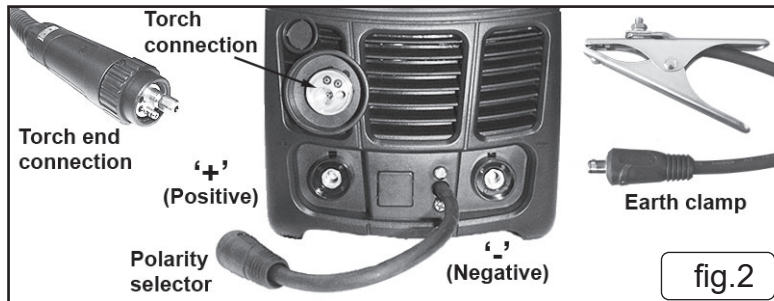
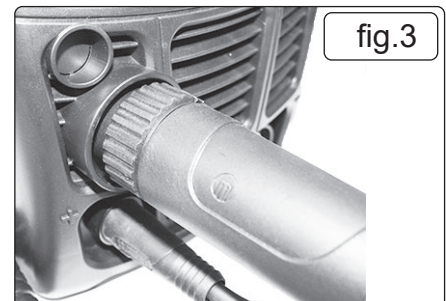

fig.2
fig.3
5.1.1. Line up the pins in the torch connector with the appropriate holes in the socket on the front panel connector (fig.2), push in, engage and tighten the locking nut (fig.3).
5.2.1. Firmly attach the earthing clamp (fig.2) to the workpiece, or to a metal support structure, as close as possible to the joint being made.
5.2.2. Insert the earthing clamp quick connector (fig.2) into the required socket, located on the lower front panel.
- NOTE:** Before connecting cables it is important to read and fully understand the electrode manufacturer's instructions on the electrode packaging. This will indicate the correct polarity connection for the electrode, together with the most suitable current to use. In principle, when ARC welding the Electrode Holder "POSITIVE" is normally connected to the "POSITIVE" (+) terminal (fig.2). The EARTH CLAMP cable is connected to the terminal not occupied by the electrode holder cable. The clamp is connected to either: